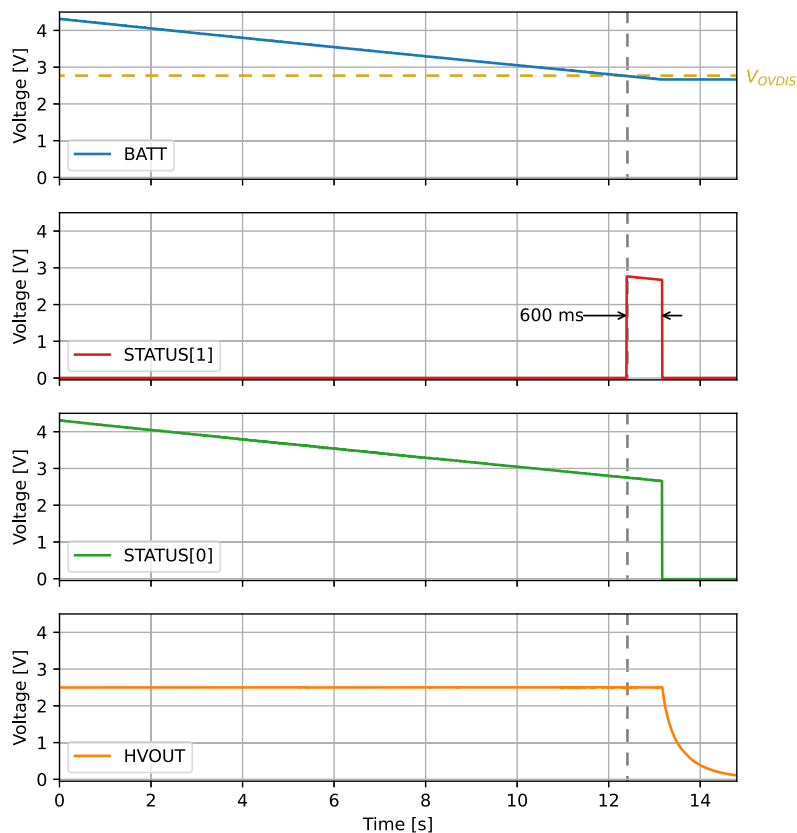

Figure 5: AEM20941 shutdown behavior
- Switch off the source and allow the system to discharge through quiescent current and any load(s) connected to **HVOUT/LVOUT**. A 50 k Ω load was connected to **HVOUT** to create the graphs shown on Figure 5.
Referring to Figure 5:
- 600 ms after crossing V_{OVDIS} , the storage element is no longer discharged as **HVOUT**, with its 50 k Ω load, is no longer supplied, so **BATT** voltage then remains stable. At that moment, **STATUS[0]** and **STATUS[1]** are both de-asserted. Figure 5 shows only the behavior of **HVOUT**, but **LVOUT** behaves the same in those conditions.